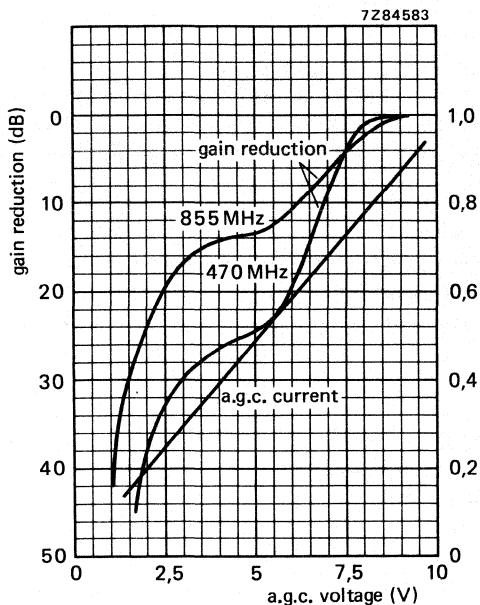

Fig. 4.
A.G.C. voltage (Fig. 4), at nominal gain
A.G.C. current (Fig. 4)